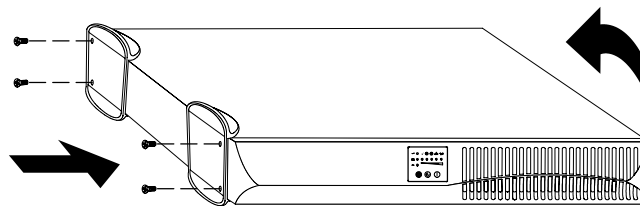

Figure 7. Installing the UPS Pedestals
2. Place the UPS cabinet horizontally so that the left end of the cabinet is accessible (see Figure 7).